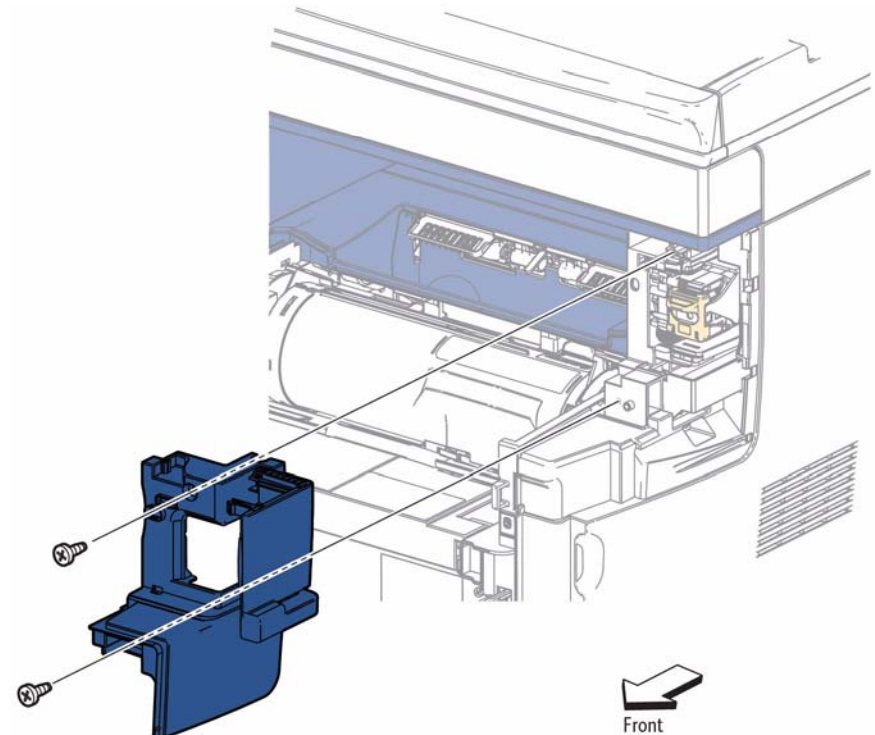

Figure 1 Remove the Stapler Cover Assembly
3. Refer to Figure 1 to locate and remove 2 screws (silver, tapping, M3, 8mm) to remove the cover.